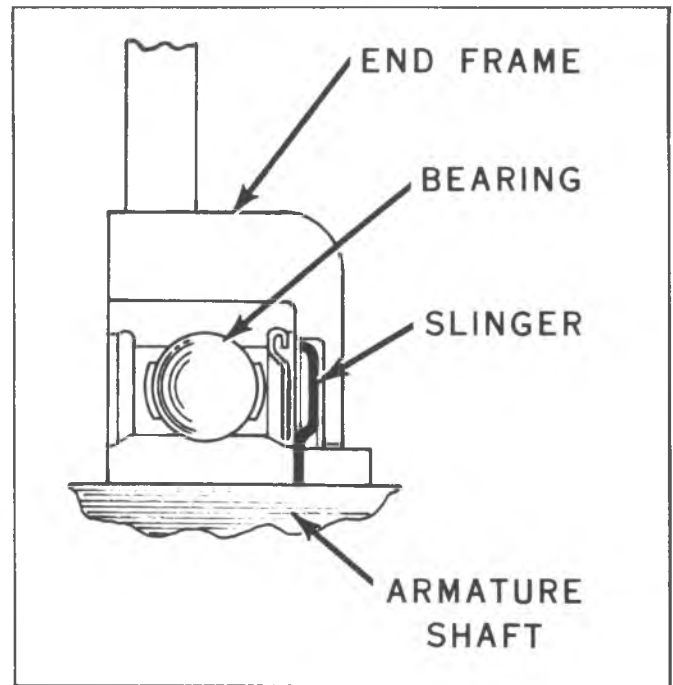

Fig. 8C--Drive End Bearing Cross Section
3. Press bearing into end frame using tube or pipe as in Step 1 with bearing and slinger assembled as shown in Figure 8C.